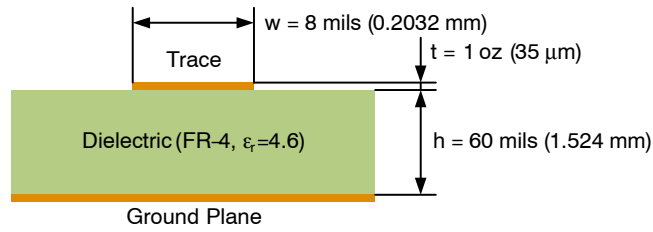
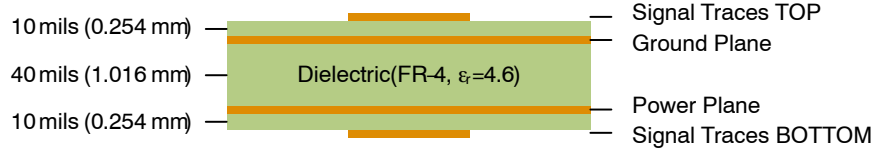

Figure 12. Example of 2-Layer PCB
Figure 13. Example of 4-Layer PCB
A typical PCB configuration is shown in the Figure 12 and Figure 13. An estimated characteristic impedance of the given 8 mils wide TOP layer trace is ca. 130 Ω at 2-Layer PCB (Figure 12) and ca. 72 Ω at 4-Layer PCB (Figure 13).
- 4-Layer FR-4 PCB (Figure 13), 8 mils trace with estimated characteristic impedance 72 Ω .